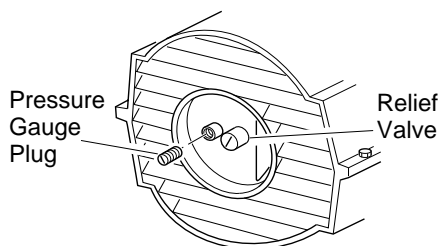

Figure 8 - Pressure Gauge Plug Removal
14. Place fine grade sandpaper (600 grit) on flat surface. Sand rotor lightly in "figure 8" motion four times (see Figure 17).